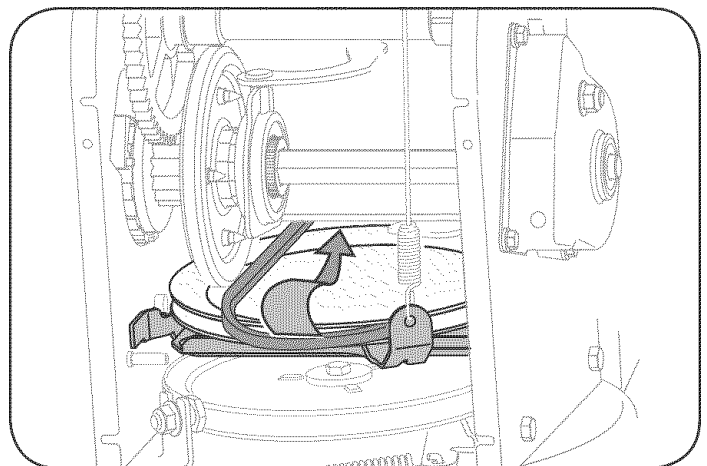

Figure 24
2. Slip the drive belt off the pulley and between friction wheel and friction wheel disc. See Figure 24.